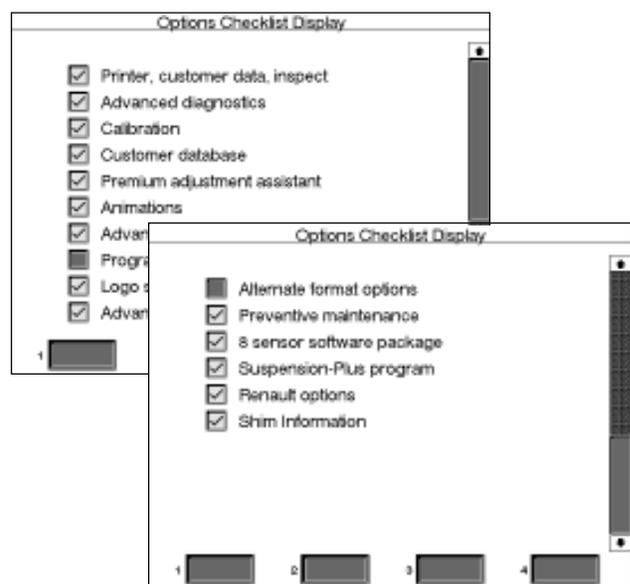

Figure 2 -- Options Checklist Display Screens
- C) An "Options Checklist" screen appears which lists the various software features that are installed (*Figure 2*). Make sure the "8 sensor software package" (located on page 2 of the checklist) has a check by it. If not, reenter the security codes given and recheck. If the option is still not enabled, contact John Bean Technical Support.